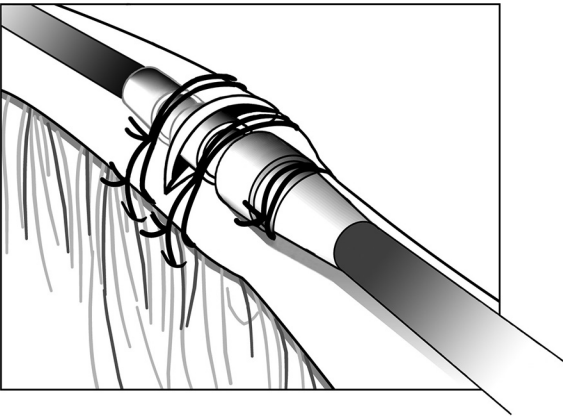

Figure 9. Example of suture sleeve, venous cutdown technique
3. Using the same groove, secure the lead and vein to the adjacent fascia (Figure 9 Example of suture sleeve, venous cutdown technique on page 20).